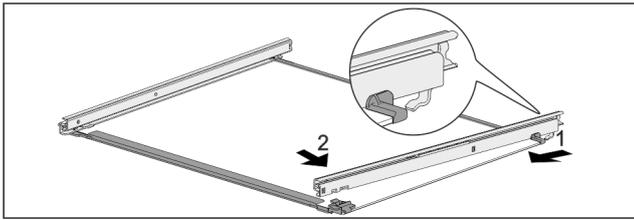

Fig. 125 Glass shelf with rails
- ▶ Hook in rail at the back. Fig. 125 (1)
- ▶ Hook in rail at the front. Fig. 125 (2)